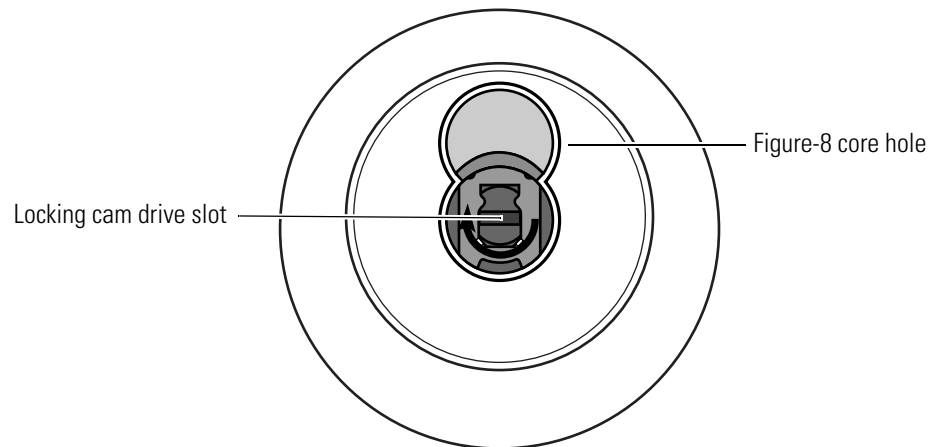

Figure 3.32 Correct position of the G function locking cam
- Before you install the core and throw member, you can see that the locking cam is not positioned as shown in Figure 3.32. Perform the following steps to reposition the locking cam.
1. Looking through the figure-8 core hole in either knob, turn the locking cam drive slot to match the position shown in Figure 3.32.
- Turn the drive slot clockwise to match the position shown in Figure 3.32.
- Check the operation of the knobs while the door is open. The knobs are locked by rotating the key 1 1/4 turns counterclockwise and unlocked by rotating the key 1 1/4 turns clockwise.